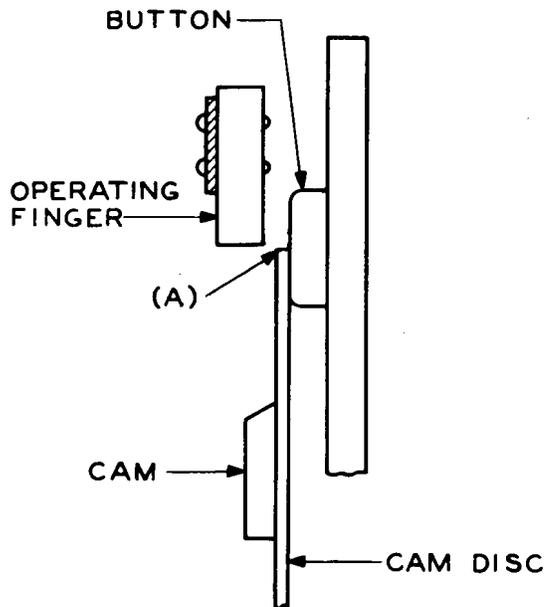

Fig. 5—Operating Finger Clearance
3.08 Operating Finger Clearance: Fig. 5, (A)—With the cam disc between the button and operating finger so the operating finger clears